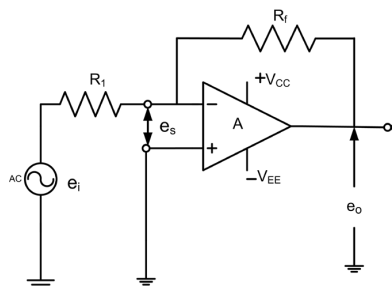

Fig. P23.1 Inverting Amplifier
4. Connect  $R_i$  and  $R_f$  as shown in Fig. P23.1.